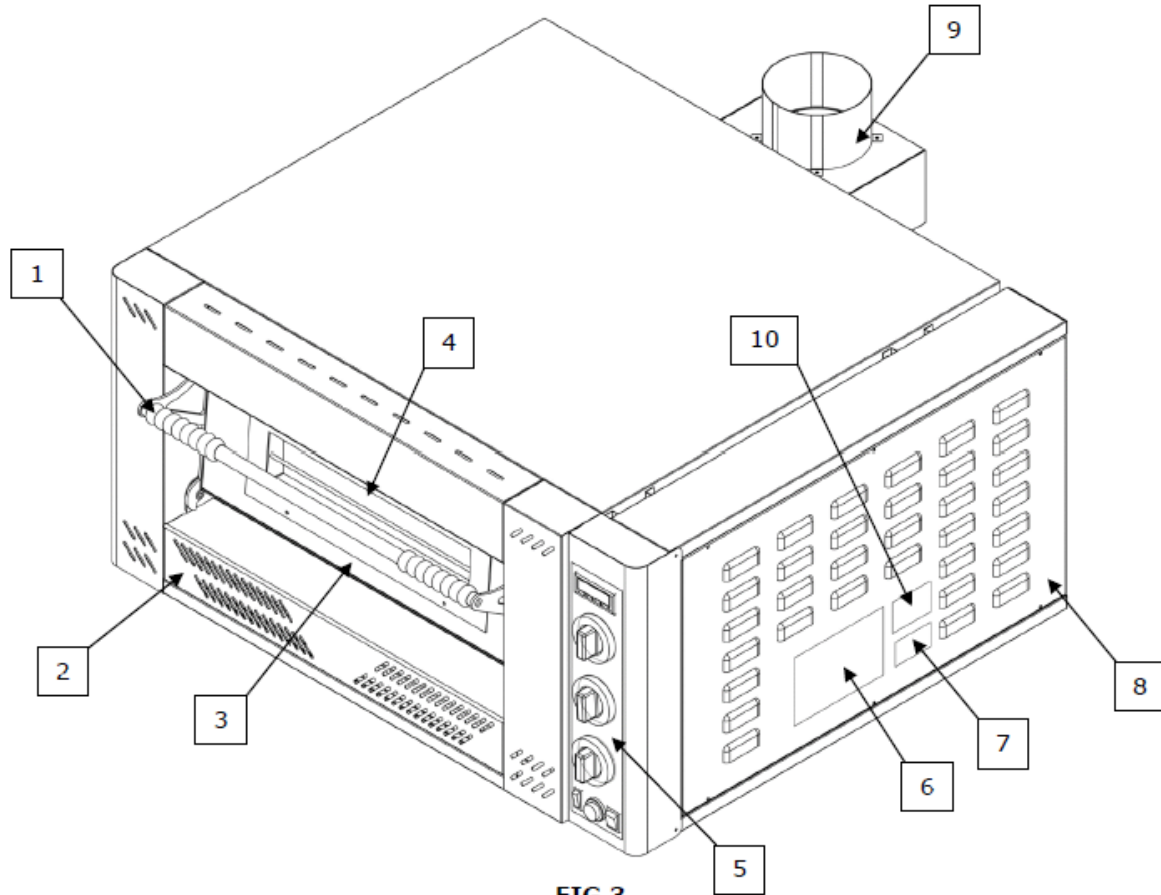
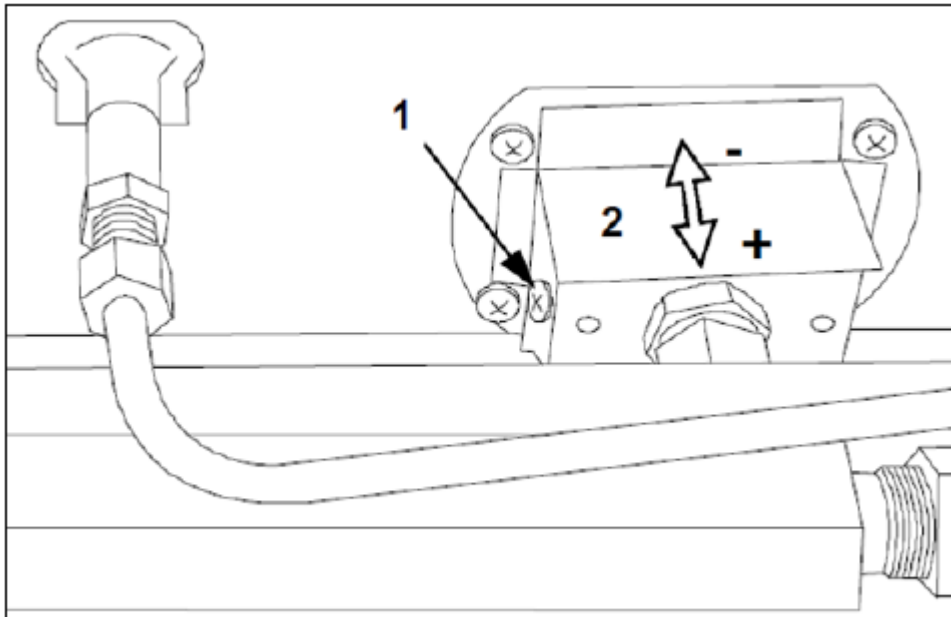

FIG.3
FIG.9
- 1) Unscrew and remove the right (DX) side of the panel (FIG.3-Ref.8);
Remove the front panel (FIG.3-Ref.2) unscrew the screws, remove the airregulator (FIG.9-Ref.1/2), the nozzles are visible and can be reached. Loose the nozzle with a suitable spanner and substitute them with adaptable types as shown in the technical data according to the oven model.
Loose the screws (FIG.9-Ref.1) and regulate the air-burner (FIG.9-Ref.2).
After the air regulation fasten the screw in the right position (FIG.9-Ref.1).